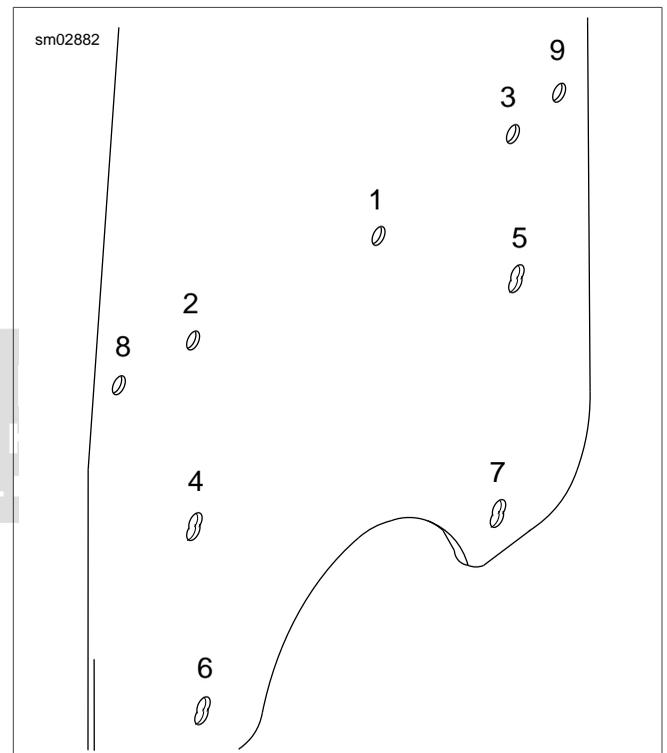

Figure 2-158. Windshield Torque Sequence
14. Holding acorn nuts on rear side, alternately tighten nine T27 TORX screws to 20-25 **in-lbs** (2.3-2.8 Nm) in the pattern shown in Figure 2-158.